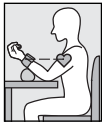

Fig.5
3. Place the cuff at heart level by placing the forearm case or a folded towel (fig.5).